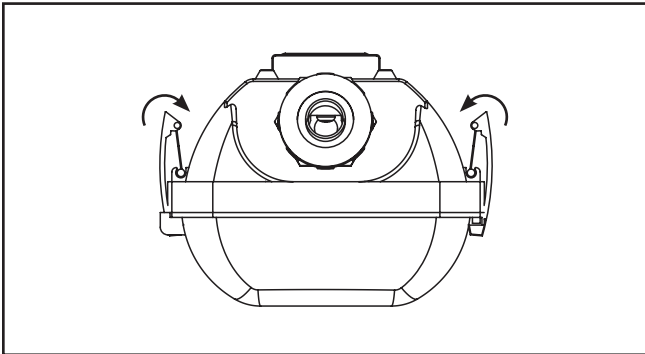

Figure 16.
17. Secure lens to housing with lens latches. (Figure 16)